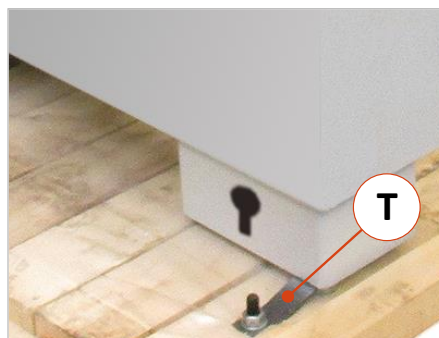

Figure 12: Transport shackle (4 x)
- Remove all the screw fastenings required for transport on the pallet and the four transport shackles (see ⇒ Figure 12) on the machine feet.
- Remove the screw fastenings and transport shackles (see ⇒ Figure 12) required for transport on the pallet and fit the four support feet supplied.